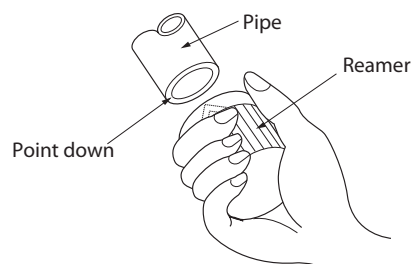

**Fig. 7.2**
- Make sure that the pipe is cut at a perfect 90° angle. Refer to Fig. 7.2 for examples of bad cuts.